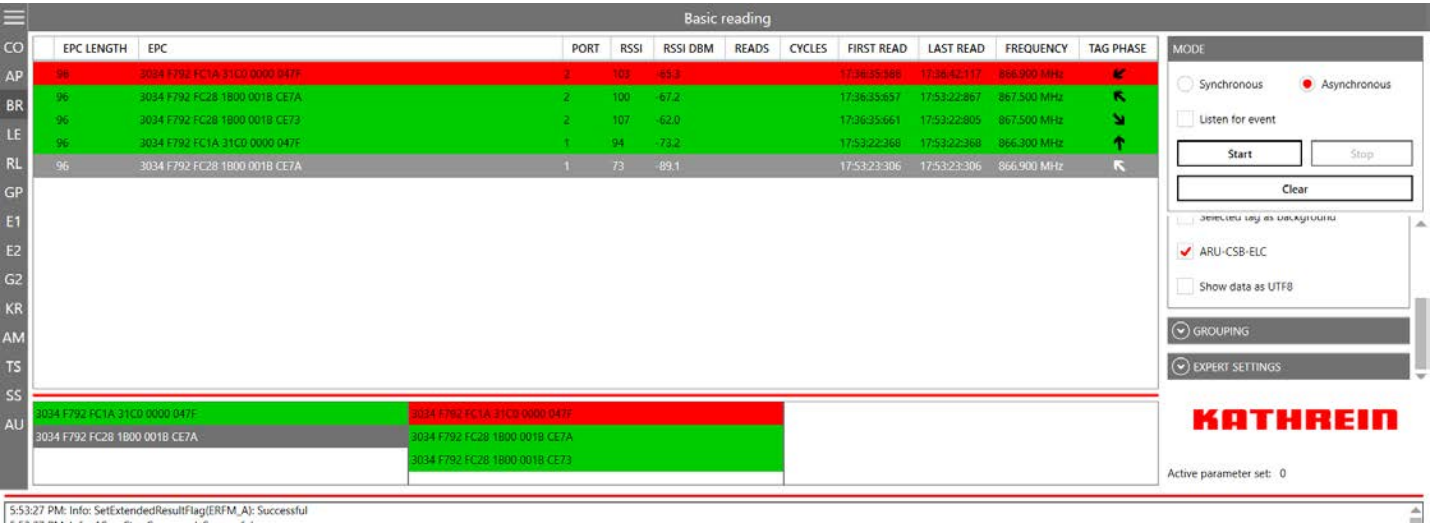

Fig. 58: Basic reading: ARU 8500
► Click on the arrow (③ in Fig. 58, to select between the following functions: